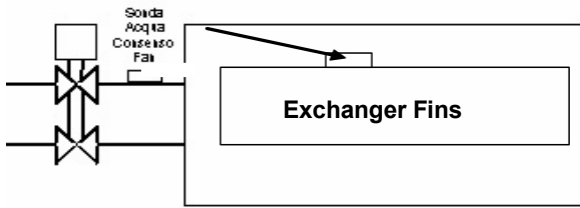

Fig. 8 Position of the Fan Coil consent water sensor
3. **Temperature sensor with fan start consent function:** Position the sensor on the heat exchanger fins as shown in Fig. 8.